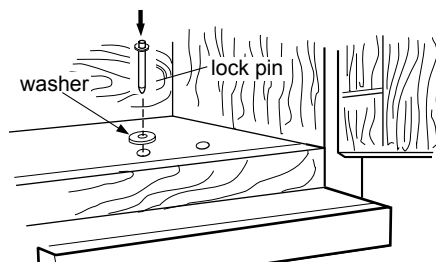

Figure 29
3. Drop the lock pin and washer assembly into hole "N" (left side hole) and push the pin down as far as it will go. See Figure 29.